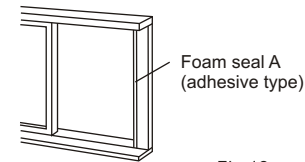

Fig.12
1. Cut the foam seal(adhesive type) to the proper length and attach it to the window frame, Fig.12.